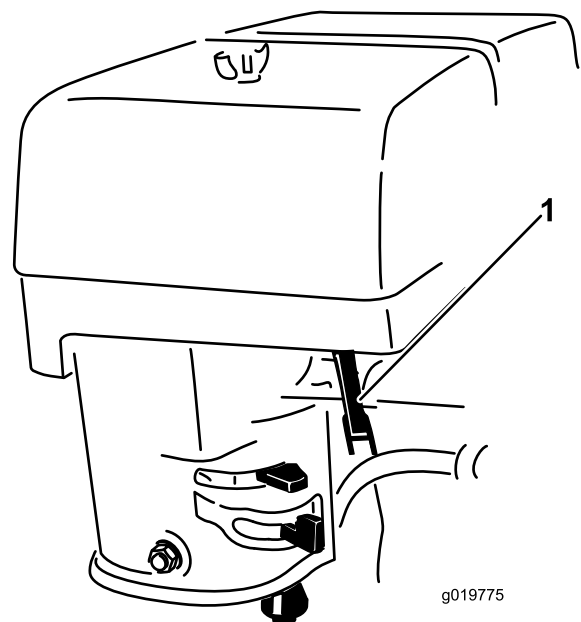

Figure 14
4. Move the throttle lever midway between slow (turtle) and fast (rabbit) positions (Figure 14).